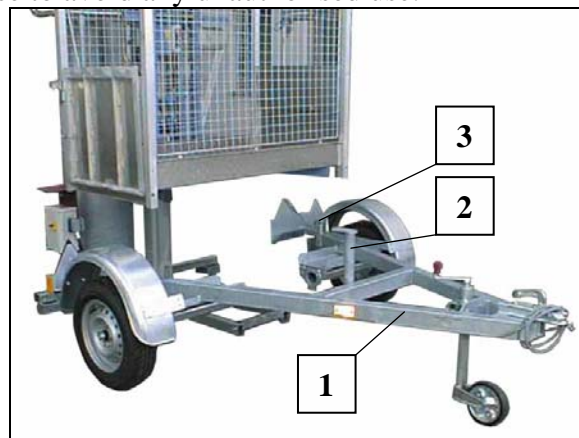

Fig. 24 Loading and unloading the singleaxle trailer
- Insert transport wheels (Fig. 24) and secure by tightening the ring nuts.